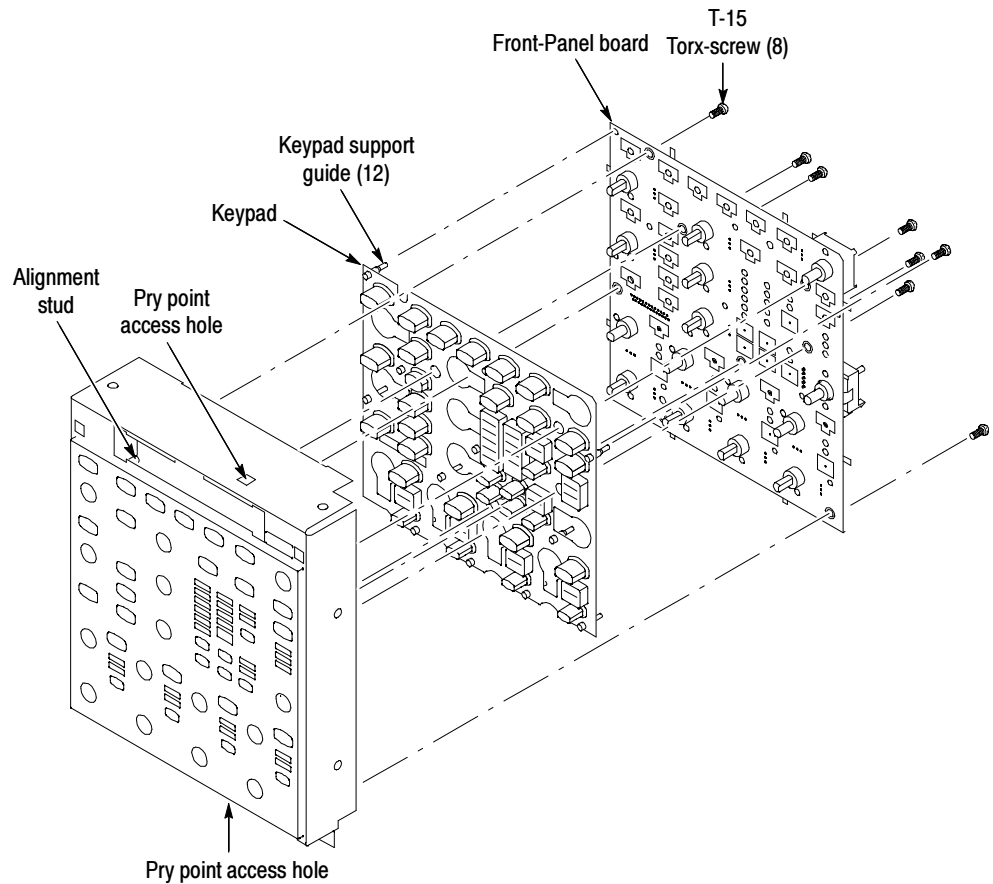

Figure 11: Front subpanel board and keypad removal
1. Remove the Front-Panel board: See Figure 11.
1. Remove the Front-Panel keypad: See Figure 11.